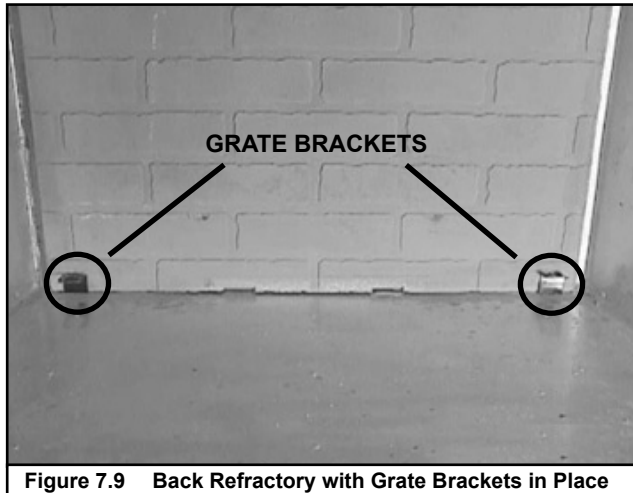

Figure 7.9 Back Refractory with Grate Brackets in Place
- Place grate brackets in outer two notches of refractory. See Figure 7.9.